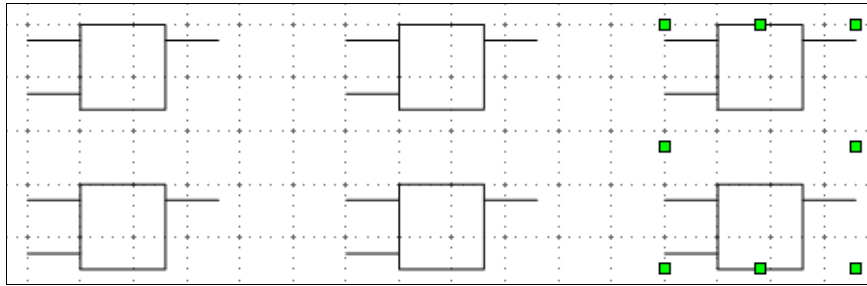

Figure 5: The blocks after duplication
Using the same method, copy both blocks twice more to the right. Select both blocks, call up the Duplicate dialog, and use placement values of 30 mm (X) and 0 mm (Y). Your drawing should look similar to Figure 5.